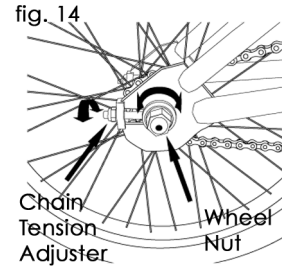

fig. 14
b. If the wheel is equipped with chain tension adjusters (fig. 14) loosen the nuts on the adjusters by turning both counterclockwise with a correctly sized open end or adjustable wrench an equal number of turns. This allows you to move the wheel as required by step (4) below.
c. If your wheel has chain tension adjusters (fig. 14), position the chain tension adjusters in the dropouts and, using a wrench to turn the adjuster nuts clockwise, pull the wheel back in the dropouts so that it is straight in the frame and the chain has about 1/4 inches of up-and-down play. Replace chain adjuster end caps if provided.